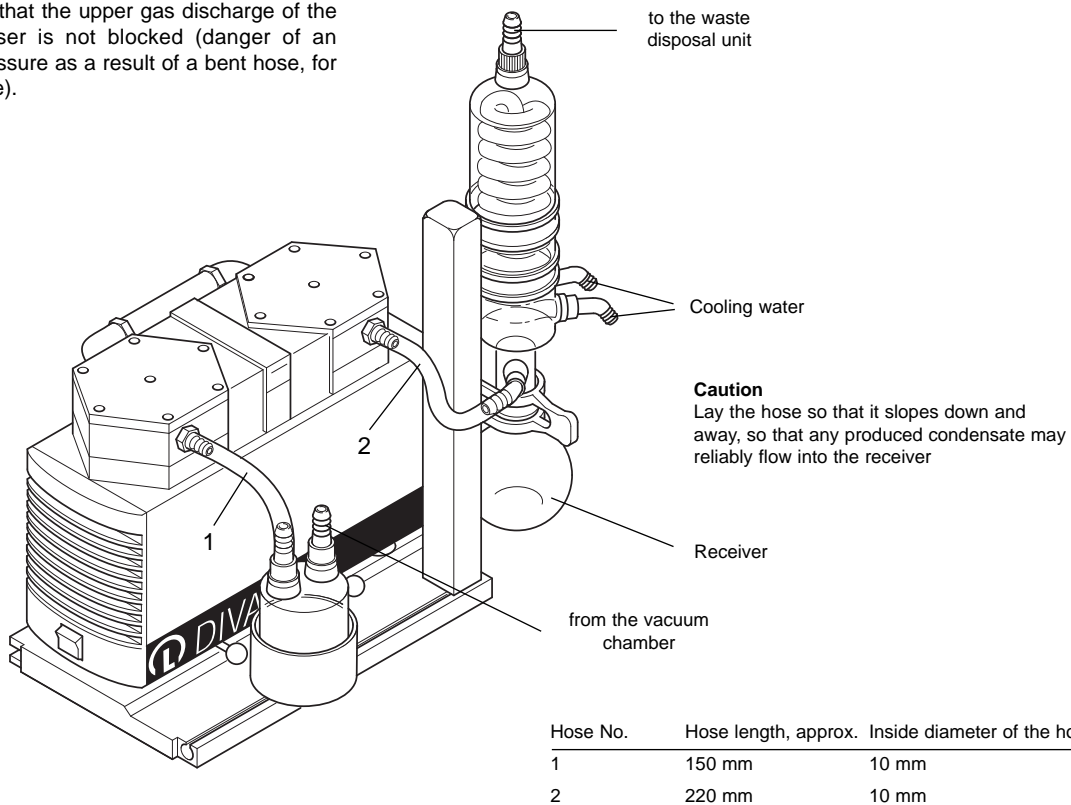

Fig. 9 Hose connections on the DIVAC SH system
- Provide the hose connections as shown in Fig. 9 (for hose materials see Section 6 - Spare parts).
- In the case of the condenser you must make sure that the hose connections for gas and cooling water (Fig. 9) are assigned correctly. The inlet and the outlet for the (gas) connections must not be interchanged.